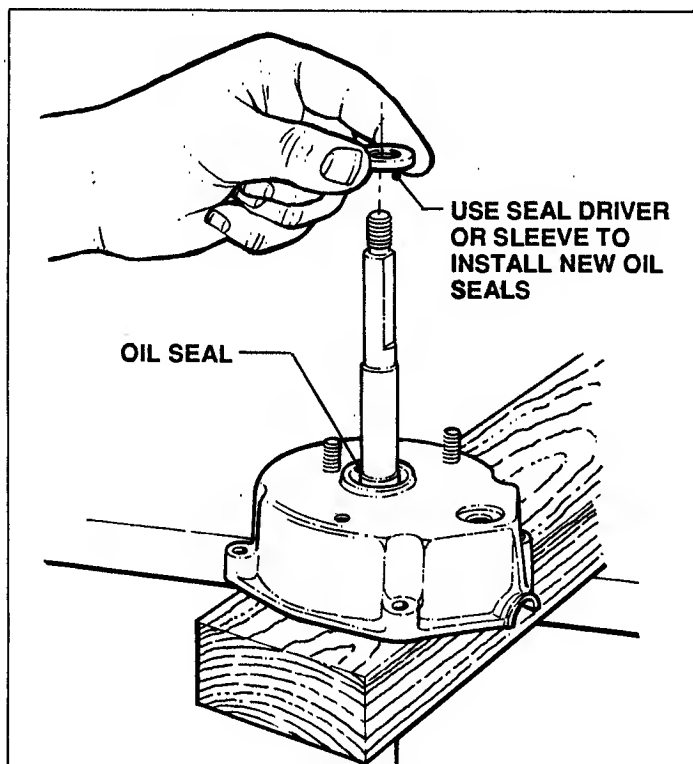

FIGURE 4.16
- (b) Press or drive seal into housing, using a seal driver of appropriate dimensions. See Figure 4.16.